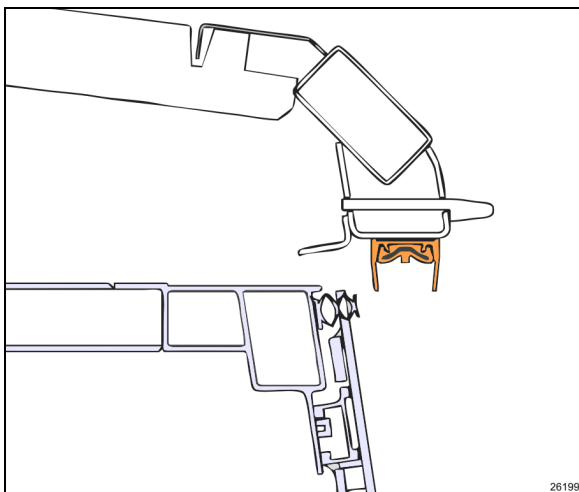

FIGURE 21: ROOM 2" INSIDE - UPPER SECTION VIEW
Do not retract slide-out room too far in. Retract just past the wiper seal. (Figure 21)
- Using the manual override procedure paragraph 5, move the slide-out 2" inside the vehicle just so the seal becomes accessible from the outside (Figure 21).